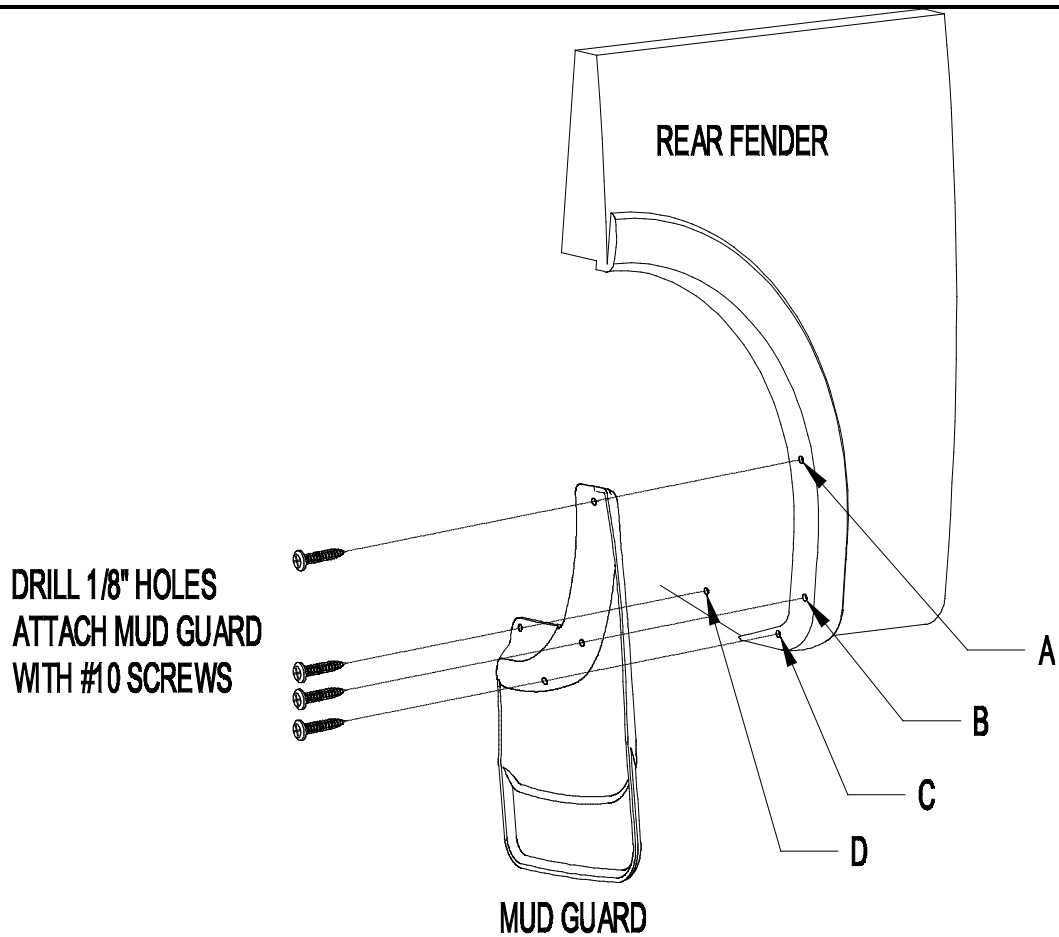

Figure 1
2. Place mud guard against rear fender and using mud guard as a template mark and drill 1/8" holes at locations A, B, C, and D (Figure 1).